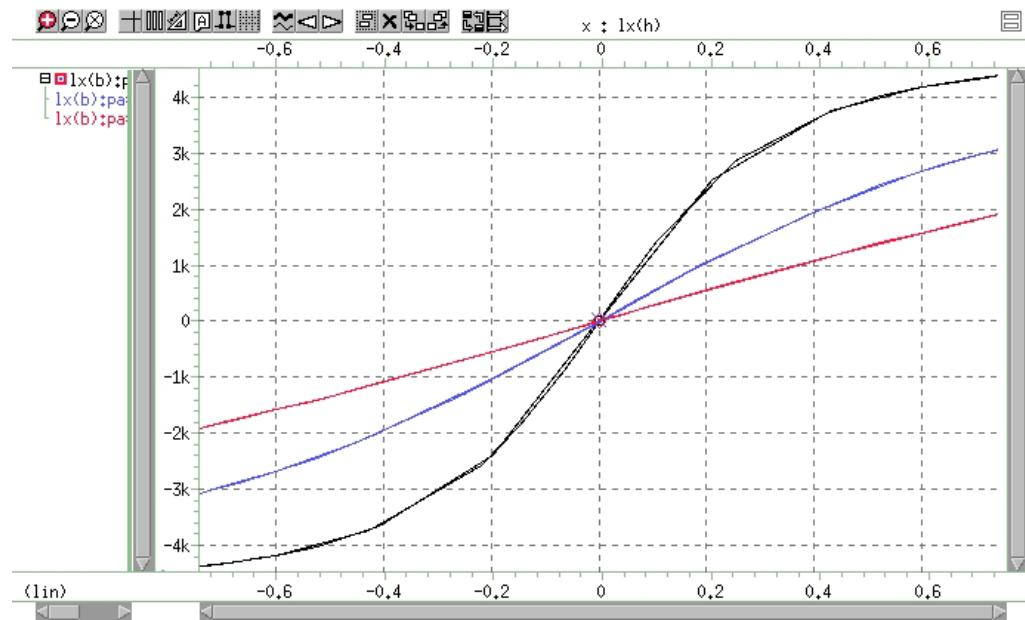

Figure 5 Anhysteretic  $b$ - $h$  Curve Variation: Slope and ALPHA Increase
- Figure 5 on page 43 shows b-h curves for three values of ALPHA.